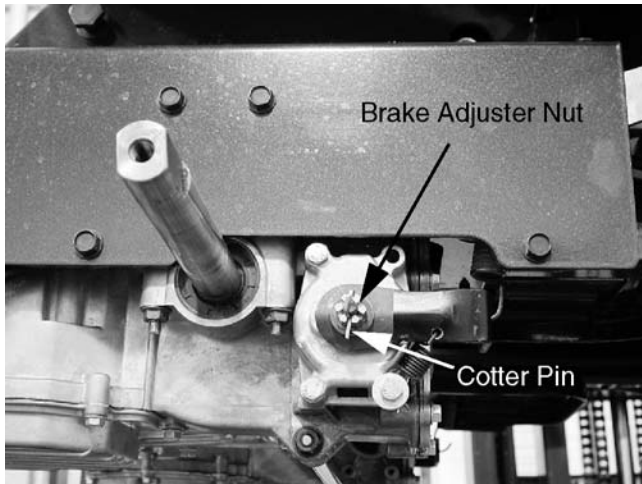

Figure 11-35
8. To check the caliper adjustment: Raise the rear wheels off the ground, and support the tractor by the frame. See Figure 11-35.